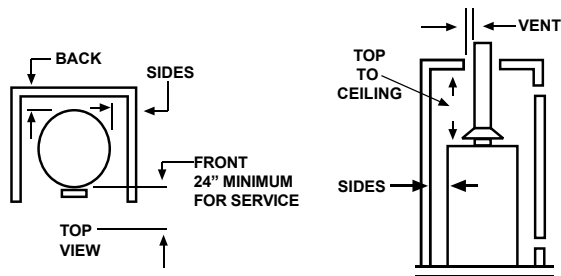

FIGURE 10.
- Figure 10 may be used as a reference guide to locate the specific clearance locations. A minimum of 24 inches of front clearance should be provided for inspection and service.